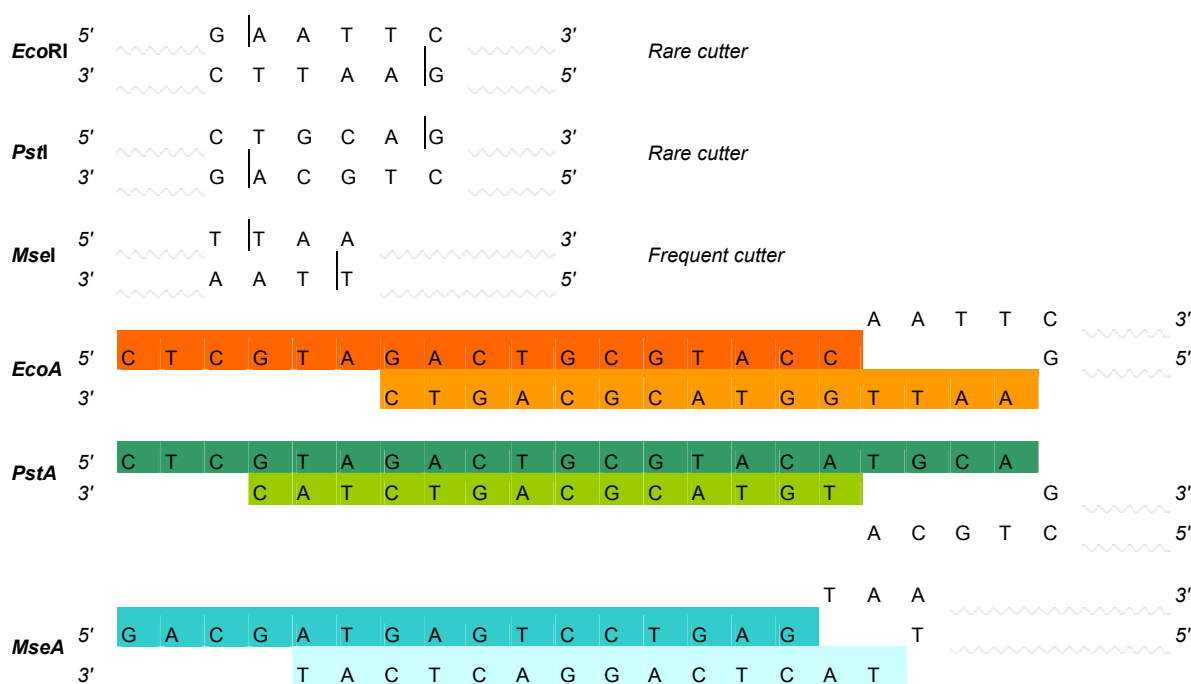

Figure 1 Cutting sites of restriction enzymes and structures of adapters
- ✓ Adapters preparation: see Figure 1 and Table1. Dilute lyophilized adapters to 200pmol/µl (Stock solution) and see Table 2 and Table 3. Heat the adapter mixes at 94°C for 4' and then let the temperature low down at room temperature.